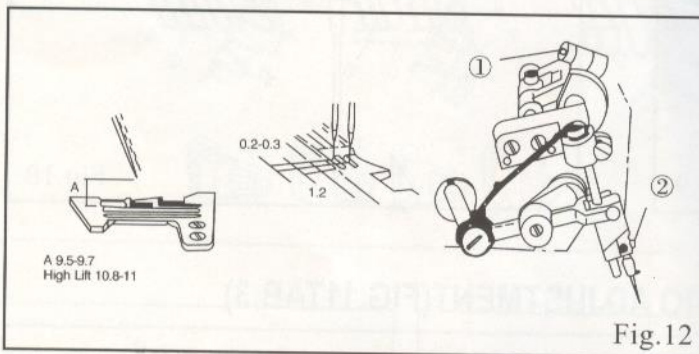

Fig.12
### (1) Needle and Needle Plate Fig.12